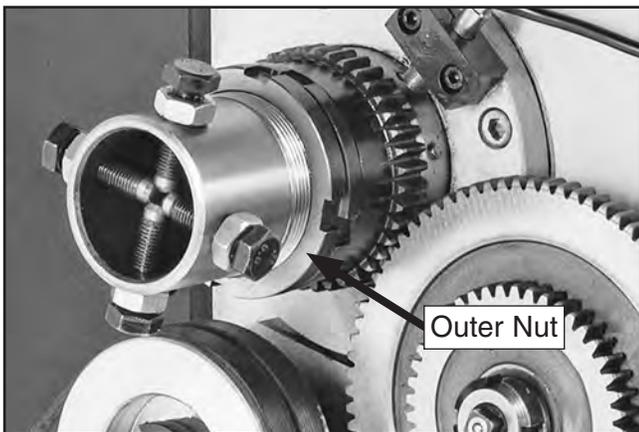

Figure 126. Outer spanner nut re-installed.
13. Without allowing inner spanner nut to tighten any further, install and tighten outer spanner nut against inner nut (see **Figure 126**).